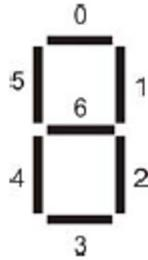

FIG. 4: FPGA’s 7-seg indices
1. The data we will write to the address specified (0xAA55) on the 7 segment display is the word HELLO. You will write code to sequentially write each letter. The code for the letter “H” to be displayed should be when the corresponding segments 1,2,4,5,6 are held 0 (they are active low), with only segments 0 and 3 needing to be turned off (assigned a 1). Since the data is 8 bits instead of 7, just hold the 8th bit as a 0 in all cases. Thus the data code for displaying “H” will be 00001001, or 0x09. In the following manner each of the subsequent data codes can be formulated corresponding to the other letters. A diagram for how the segments are physically indexed on the board are defined is shown in Figure 4.